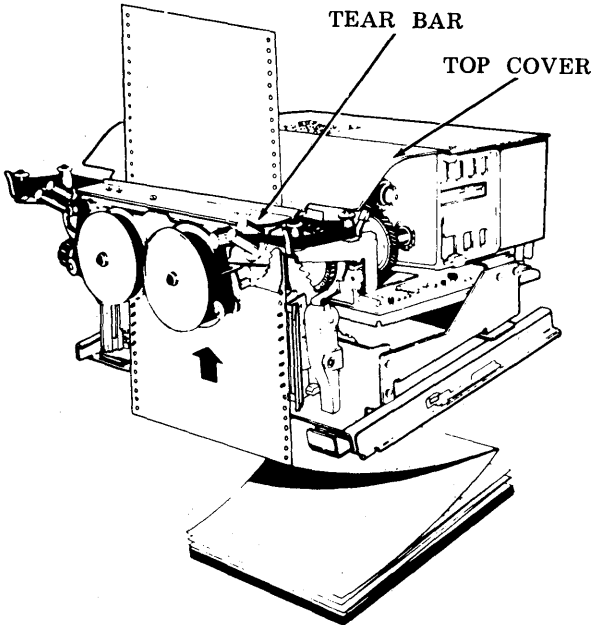

Fig. 55—Paper Routing
- (c) Insert paper up through the paper guide chute, behind the ribbon shield and out the slot between the tear bar and top cover before engaging feed holes (Fig. 55).